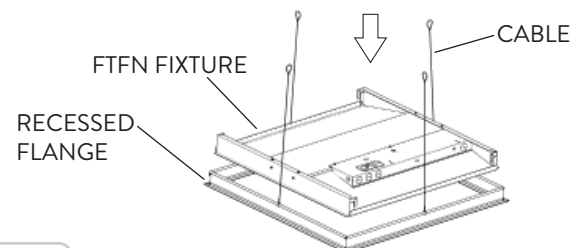

FIG. 20
- 4 Carefully mount the FTFN into the Recessed Frame and adjust any Cables if necessary (Fig. 20).